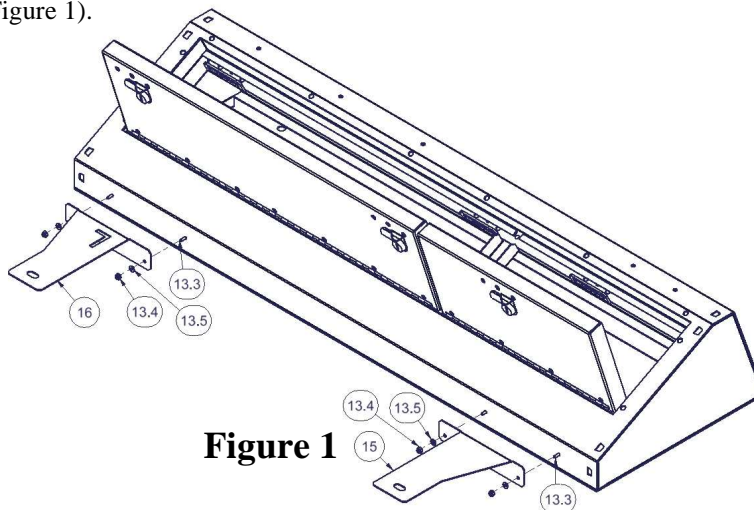

Figure 1
2. Assemble the rear mounting brackets (#15 and #16) to the enclosure using (4) #13.3 Screws, (4) #13.5 Washers, and (4) #13.4 Nylock Nuts (Shown in Figure 1).